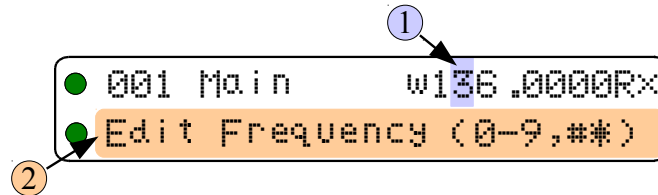

Figure 2-1. The user screen to edit the Main frequency
**Example:** The edit frequency command, figure 2-1 shows the edit frequency screen if the active memory is 001 on Main. Note that a cursor flashes on the second character in the frequency field ①, on the Main display (top row) and that the Guard Display (bottom row) has been changed to a prompt line ②. This prompt provides the user with information such as what command is running, and what keys are valid.